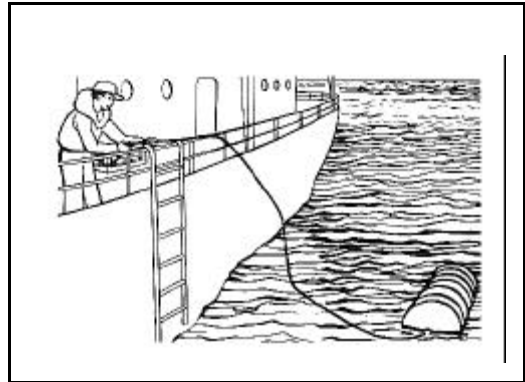

Figure 10-20. Yanking on the Operating Cord
- **Step 5.** With the life raft and container in the water, pull on the operating cord (Figure 10-20). The bands on the container will break and the life raft will automatically inflate.